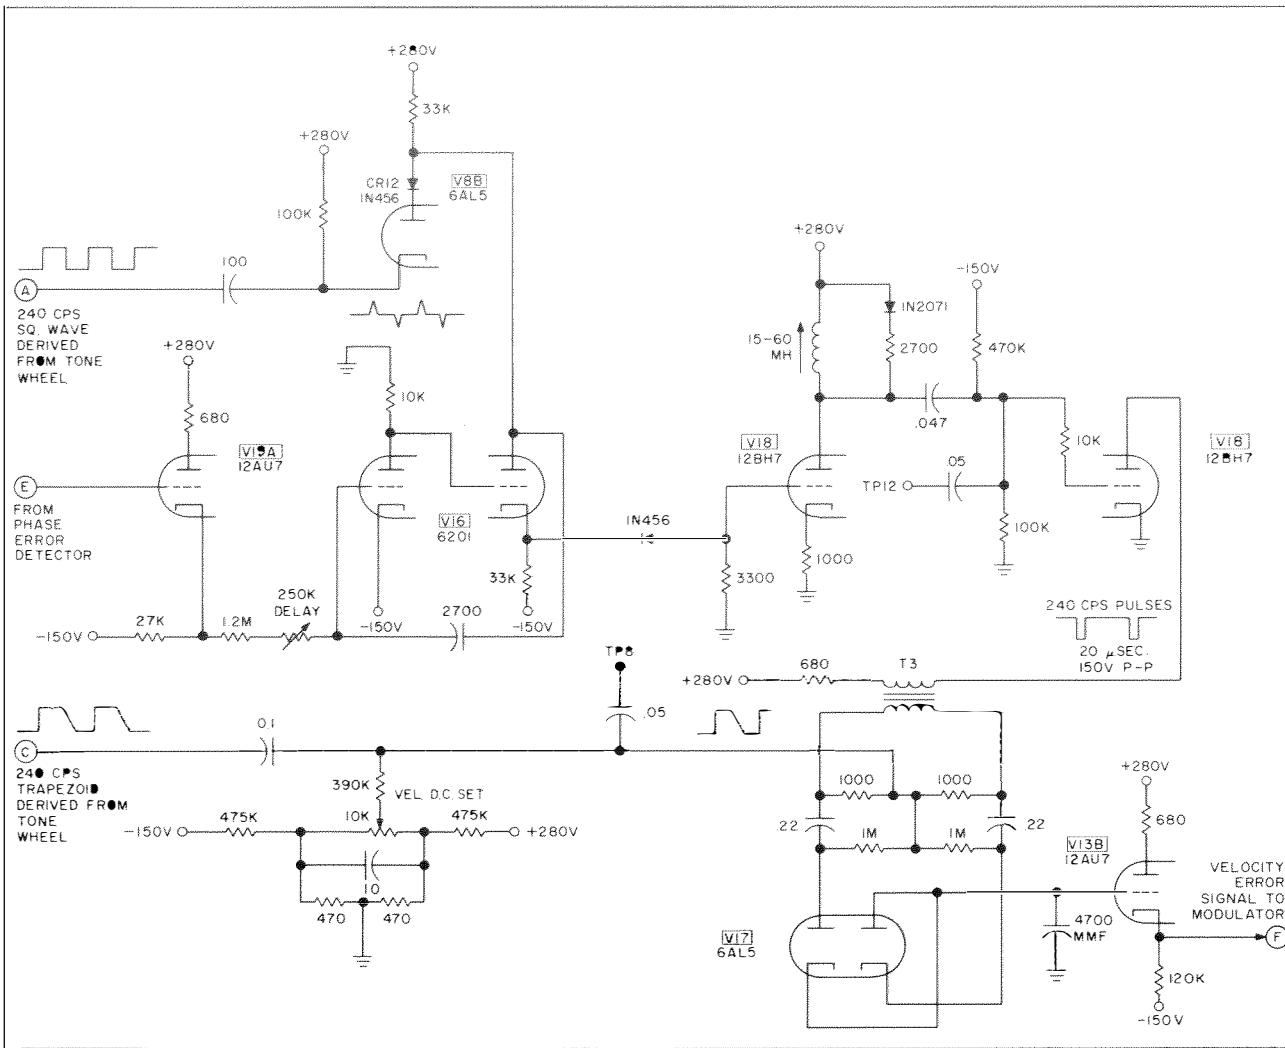

**Figure HWS-5. Sketch of Operation of Phase Error Detector**
The operation of the phase detector circuit is illustrated by the waveform sketches in figure HWS-5. Only every fourth cycle of the trapezoid waveform is actually sampled, because the reference pulses occur only at a 60 cps rate. When the headwheel is rotating at the proper speed, the sampling (or clamping) instant should occur exactly at the midpoint of the slope on the trapezoid waveform, as shown at (C). If the motor tends to run slightly too fast, the apparent phase of the trapezoid will be advanced relative to the reference pulses so the sampling will occur at a lower point on the waveform, and the error signal output will be reduced. This reduced-level error signal will reduce the power supplied to the motor so as to restore it to the proper speed. In similar fashion, a tendency for the motor to run too slow will cause the error signal to increase in voltage because of the retarded phase of the trapezoid signal, and the increased error signal will increase the power supplied to the motor to drive it at the correct speed.